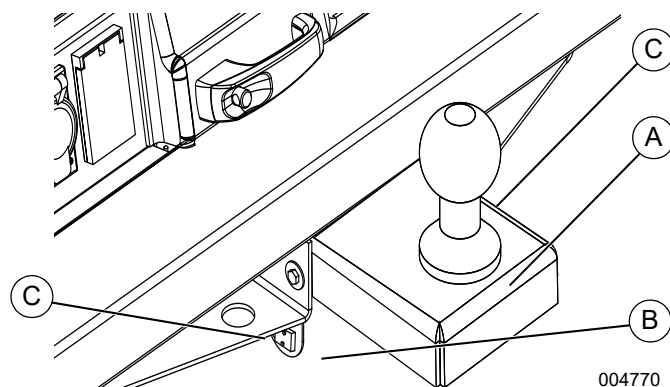

Figure 3-19. Tandem Tow
See Figure 3-19. The tandem tow hitch option (A) allows the operator to tow a second MLT6 Light Tower in series behind the unit equipped with the hitch.